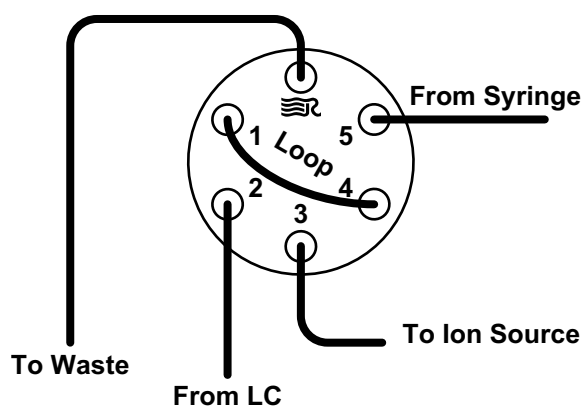

Figure 36. Divert/inject valve, showing plumbing for auto loop injection
- b. Connect the other end of the tubing fitted with a nut and a ferrule to port 5 of the divert/inject valve (Figure 36).
- b. Connect an appropriate length of tubing fitted with a nut and a ferrule to port 3 of the divert/inject valve (Figure 36)